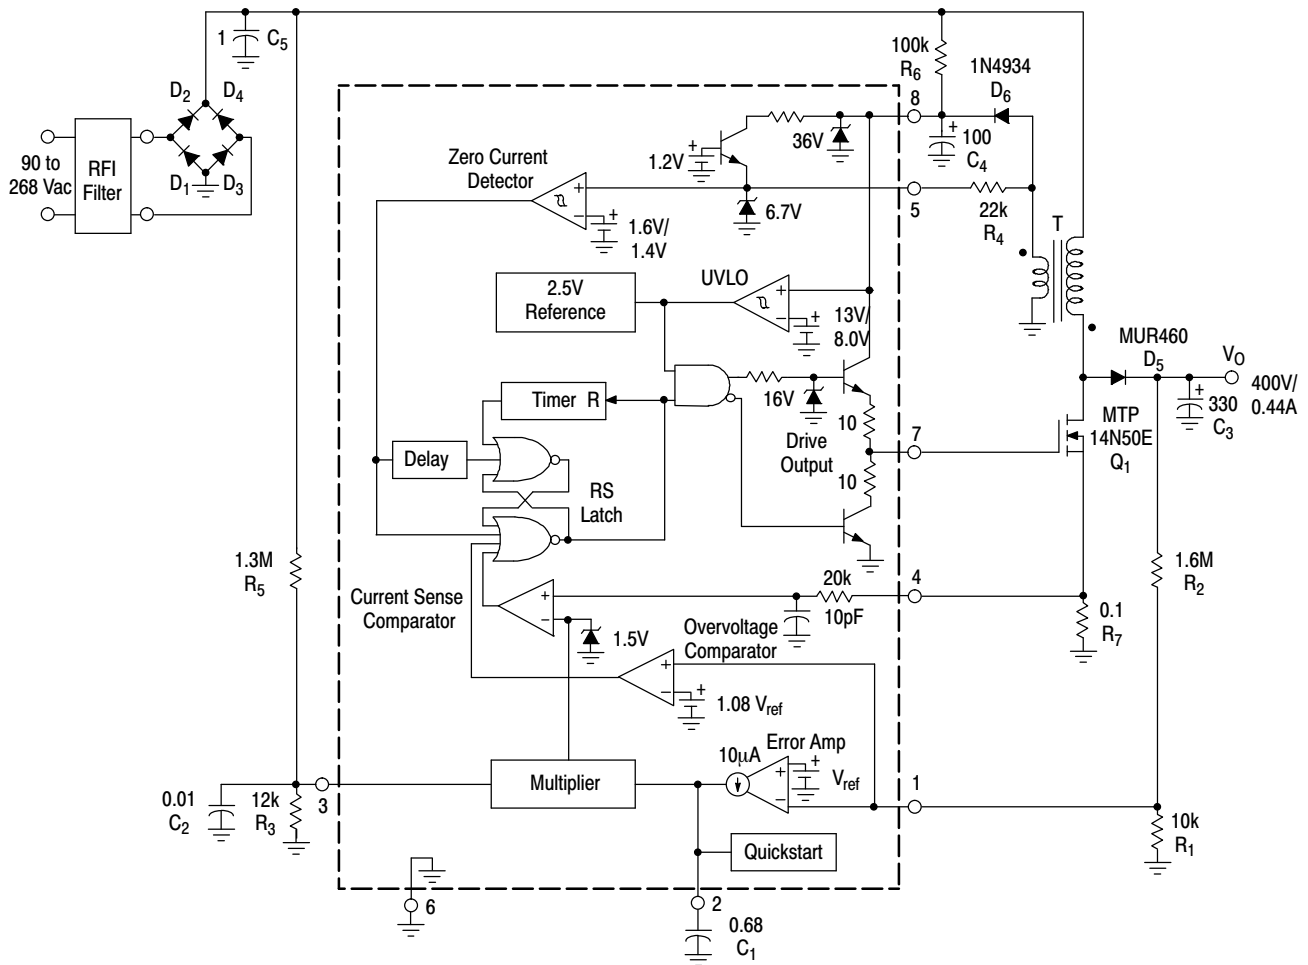
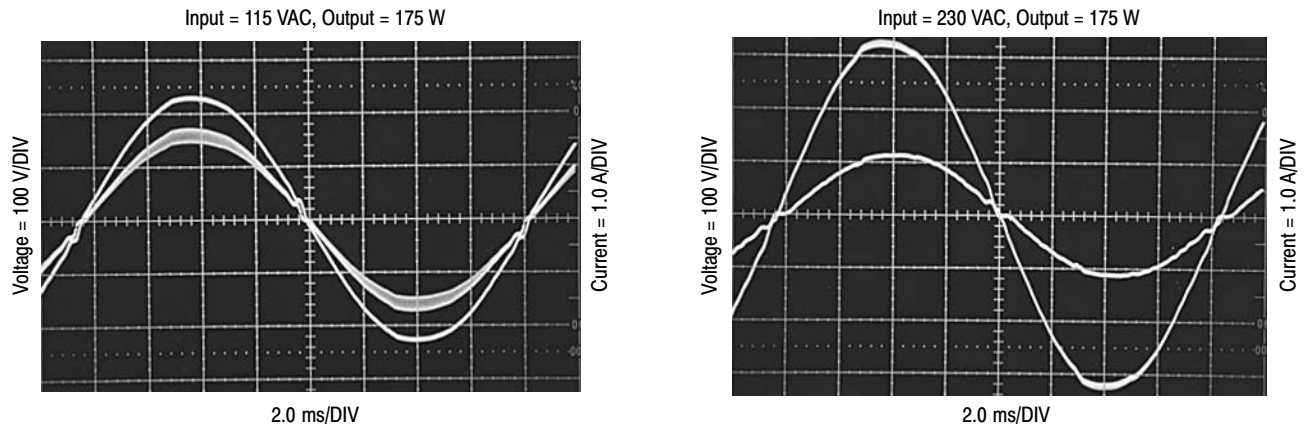
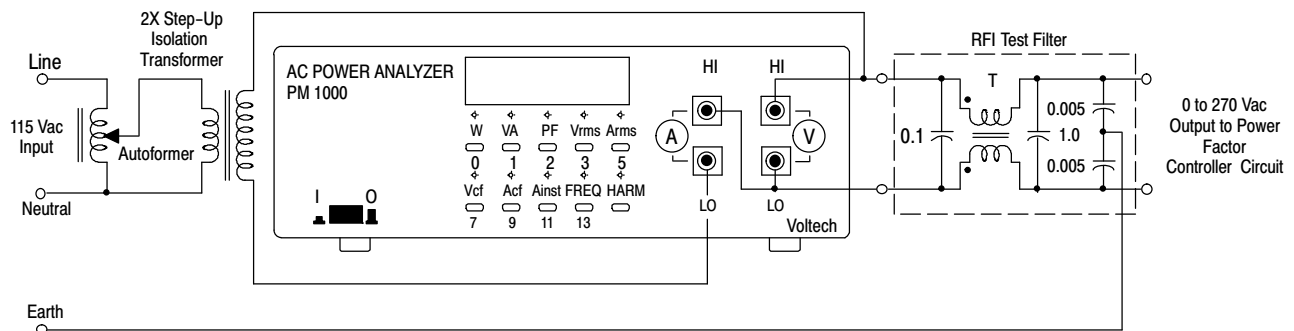

Figure 21. 175 W Universal Input Power Factor Controller
Figure 23. Power Factor Corrected Input Waveforms (Figure 21 Circuit)
Figure 25. Power Factor Test Set-Up
An internal RC filter has been included to attenuate any high frequency noise that may be present on the current waveform. This filter helps reduce the ac line current distortion especially near the zero crossings. With the component values shown in Figure 21, the Current Sense Comparator threshold, at the peak of the haversine varies from 1.1 V at 90 Vac to 100 mV at 268 Vac. The Current Sense Input to Drive Output turn-off propagation delay is typically less than 200 ns.
0.998 at nominal line. Figures 21 and 22 are universal input preconverter examples that operate over a continuous input voltage range of 90 Vac to 268 Vac. Figure 21 provides an output power of 175 W (400 V at 440 mA) while Figure 22 provides 450 W (400 V at 1.125 A). Both circuits have an observed worst-case power factor of approximately 0.989. The input current and voltage waveforms of Figure 21 are shown in Figure 23 with operation at 115 Vac and 230 Vac. The data for each of the applications was generated with the test set-up shown in Figure 25.
This data was taken with the test set-up shown in Figure 25.